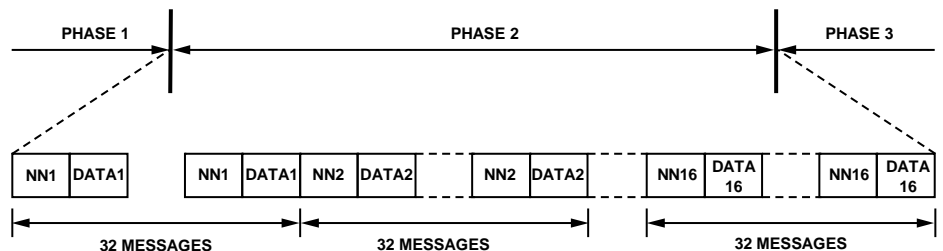

Figure 25. Mode 3 Device Data Transmission
In Phase 2 Mode 3, the 10-bit data codes, -512 (0x200) to -481 (0x21F), are used to transmit the device data. The data coding is shown in Table 34 and in Figure 25. One 4-bit nybble of the device data (encoded as one of 16 nybble codes) is transmitted in each 10-bit message. The number of the data nybble is identified by the preceding nybble number (NN) code as detailed in Table 33. This allows a total of  $(16 \times 4) = 64$  unique bits of device data to be transmitted during Phase 2. Each message is repeated